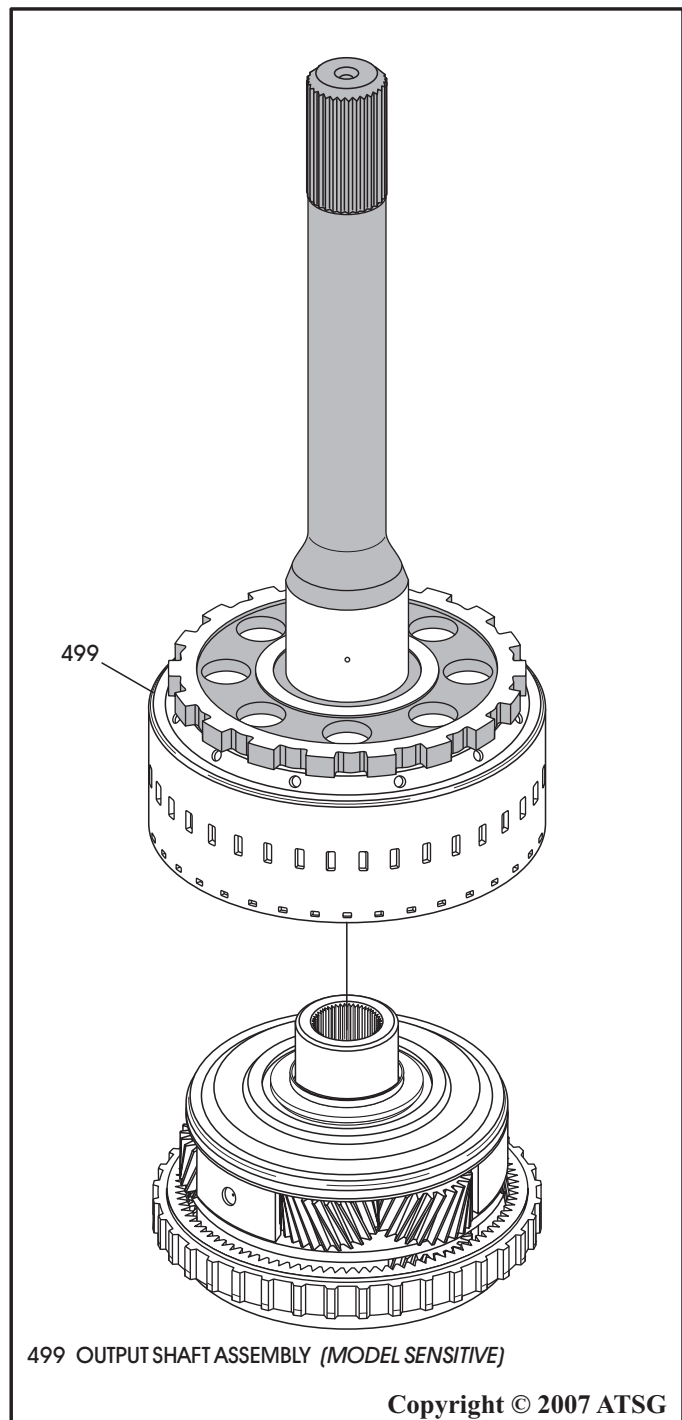

Figure 131
Note: Should look like the illustration shown in Figure 131.
21. Install output shaft assembly over the output carrier, as shown in Figure 131.